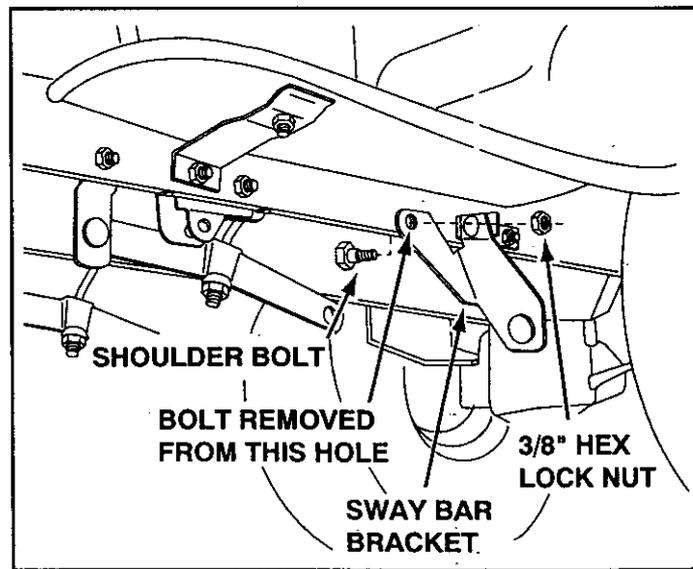

FIGURE 6
- Remove and discard the bolt, washer and nut which fasten the sway bar bracket to the L.H. side of the tractor frame. Replace with a shoulder bolt and a 3/8" hex lock nut as shown in figure 6.